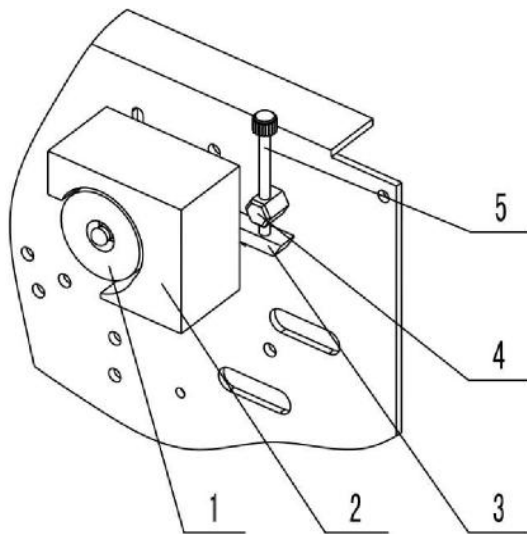

Figure 24. (1) Ink Roller, (2) Ink Roller Heating Block, (3) Swing Pole, (4) Adjusting Strut, (5) Ink Wheel Adjusting Device
6. **Adjusting Ink Wheel Adjusting Device.** As the print wheel rotates, check that the printing wheel makes contact with the ink roller. Make adjustments using the ink wheel adjusting device (Figure 24, Item #5) if necessary. Turning the adjusting screw clockwise will move the ink roller